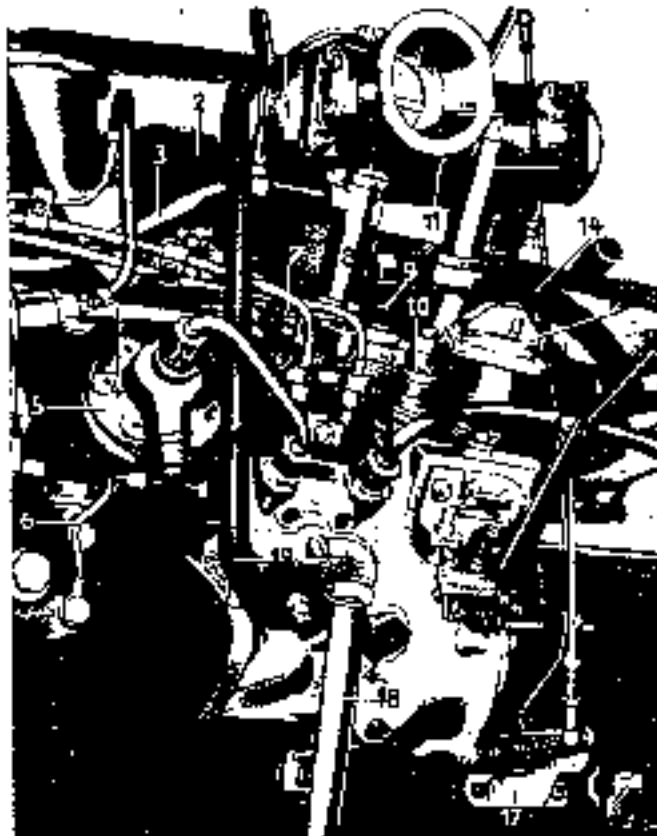

Fig. 01-4/11 a
1. Remove air filter. For this purpose loosen vent line to cylinder head, supplementary air line (2), the connection to the venturi control unit and the fixing screw on supporting rod (19) (Fig. 01-4/11 c).